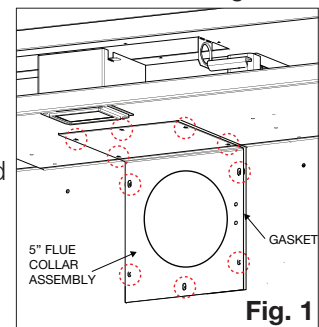

Fig. 1
- F** Secure the flue collar assembly, gasket and rear exit shield using the 10 hex head 3/4" black screws (**Fig. 1**).